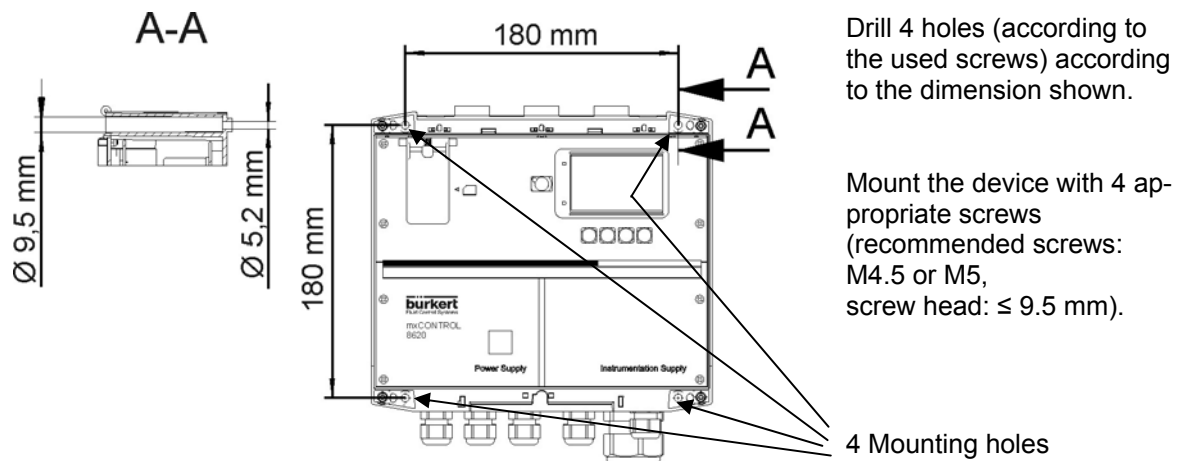

Figure 3: Dimensions for mounting
- Wall mounting with screws is made possible by 4 openings located in each corner of the enclosure (see Figure 3). Access to these openings is obtained by opening the cover.